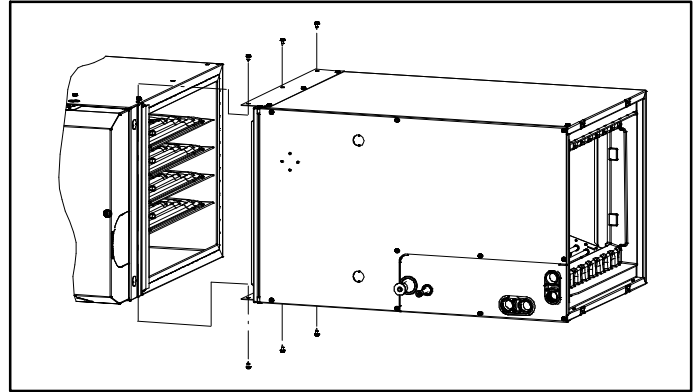

Figure 5 – Horizontal Right Installation
4. Use self-tapping screws to attach furnace. (See **Figure 5**)